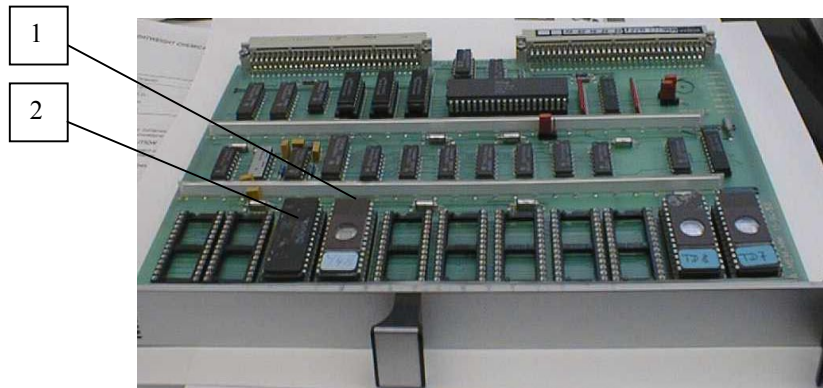

Fig.8 Data chip on card <MEM>
- (4) Put the card <MEM> with the IC's on the top of a table.
(5) Find the datachip EPROM (Fig.8 No.1) & EEPROM (Fig.8 No.2) on the card.